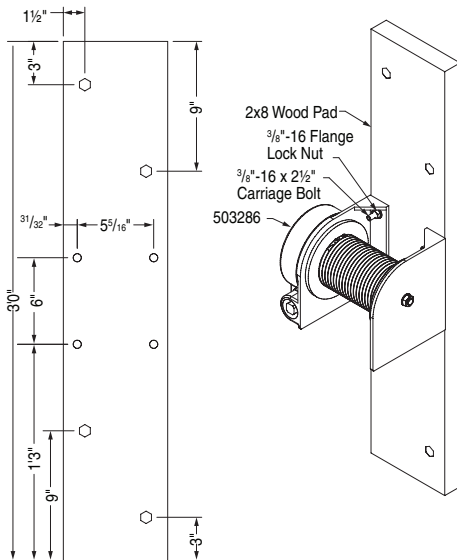

Figure 1
- ① Find installation location according to project drawings
- ② Four 7/16" diameter holes are provided for mounting the winch. It will be necessary to remove winch cover during installation. Attachment hardware will vary based on field conditions
- A) To mount to 2 x 8 x 36" wooden wall pads - Locate winch at center of wood pad with the pad running vertically. Mark and drill 1 3/32" holes and attach using 3/8"-16 x 2 1/2" carriage bolts and flange lock nuts. Anchor wooden wall pad per Draper recommendations and using hardware that is appropriate for wall construction and field conditions (see Fig. 1).